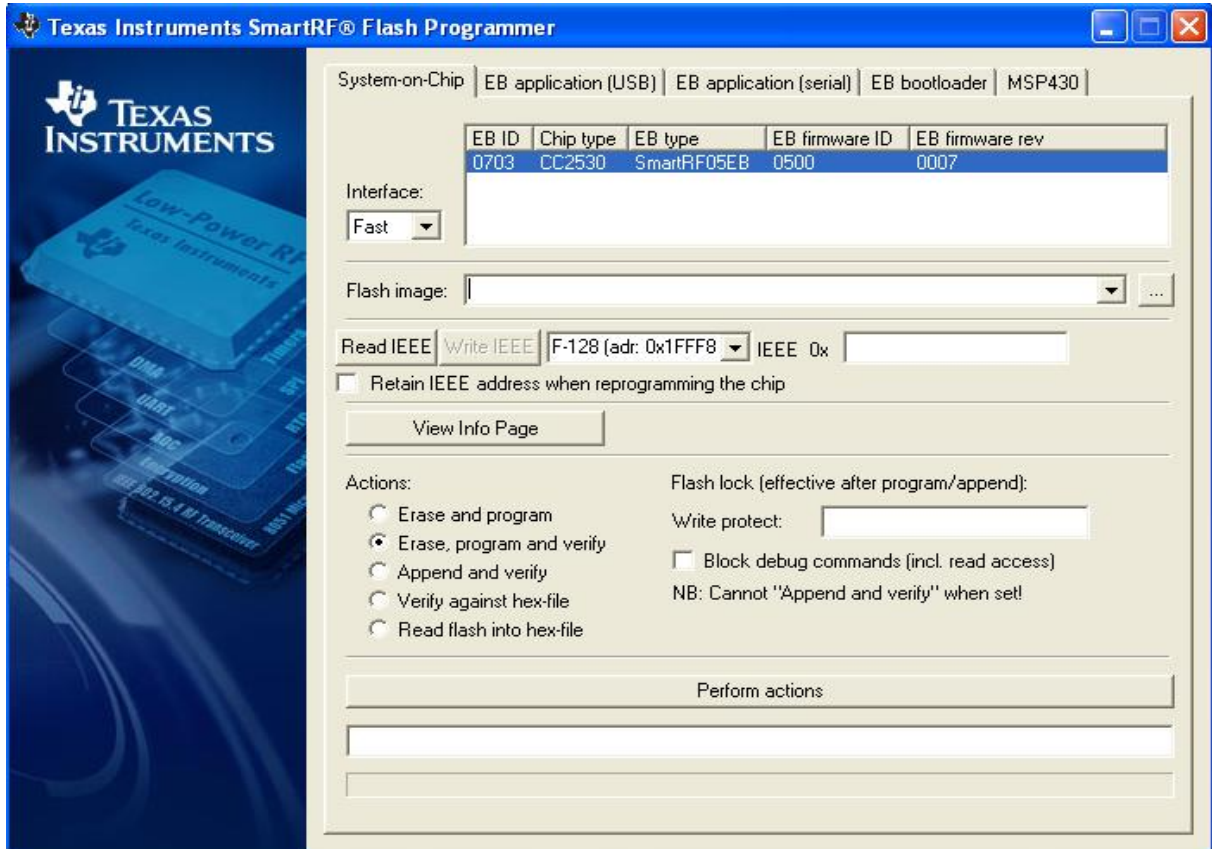

Figure 3 Flash programmer
6. Open the Texas Instruments Flash Programmer, and choose the System-on-Chip tab. The connected device is shown in the list as in Figure 3.